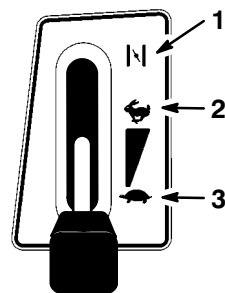

Figure 8
5. Move the throttle lever to Choke (Fig. 8).
7. After the engine starts, slowly move the throttle lever to Fast (Fig. 8). If the engine stalls or hesitates, move the throttle lever back to Choke for a few seconds. Then move the throttle lever to Fast. Repeat this as required.
1. Move the throttle lever to Slow (Fig. 8).